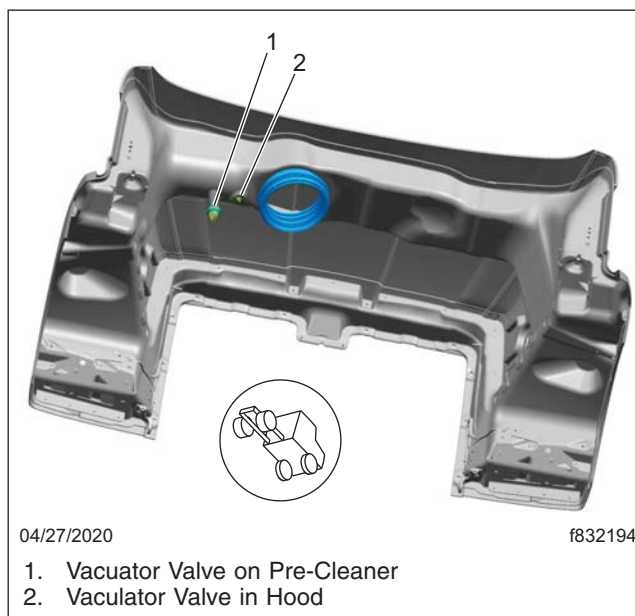

Fig. 23.11, Hood Vacuator Valves (Hood Interior Shown)
- 3.1 If equipped with optional pre-cleaners, inspect the vacuator valves. Each pre-cleaner has two vacuator valves: one installed on the pre-cleaner and one in the hood interior. See Fig. 23.11. Make sure the lips of each valve are undamaged and pliable, free of debris, and remain closed during inspection.